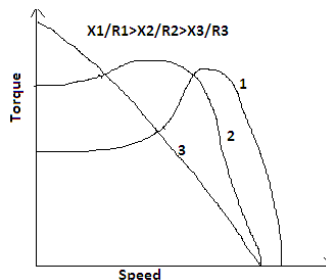

Fig1. Torque-Speed Characteristics of IM
1. The rotor of the servo motor is built with high resistance so that its X/R ratio is small and the torque speed characteristics are as shown in fig 1.